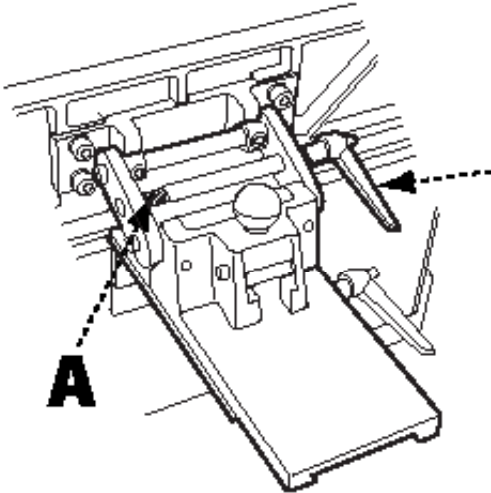

FIGURE 5
1. Feed the threaded end of the fence angle lock (A) through both holes in the fence mounting assembly and secure by screwing it into the assembly. See Figure 5.
2. Install the 45°/90° angle stop by pulling up on the spring-loaded pin (B) and sliding the angle stop